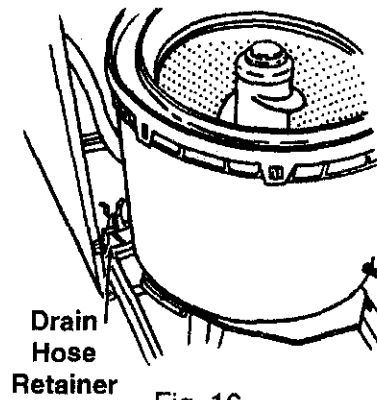

Fig. 16
3. Remove the Drain Hose from the retainer (Fig. 16)